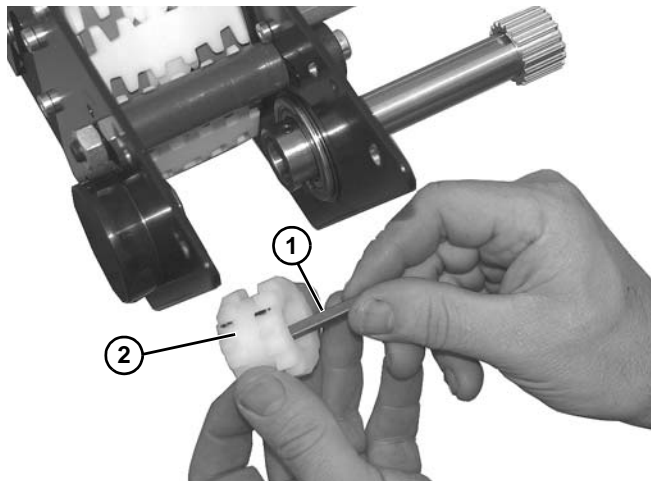

Figure 169
17. Remove key (**Figure 169, item 1**) from sprocket (**Figure 169, item 2**).